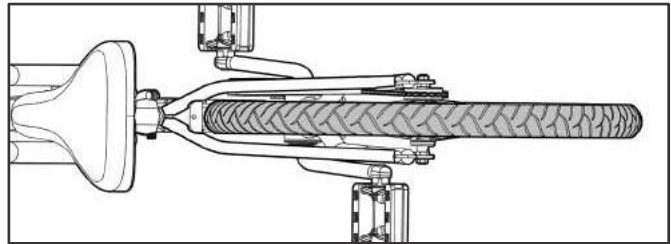

Figure 75
- NOTE:** Make sure the rear wheel is centered in the bicycle frame (see Figure 75).